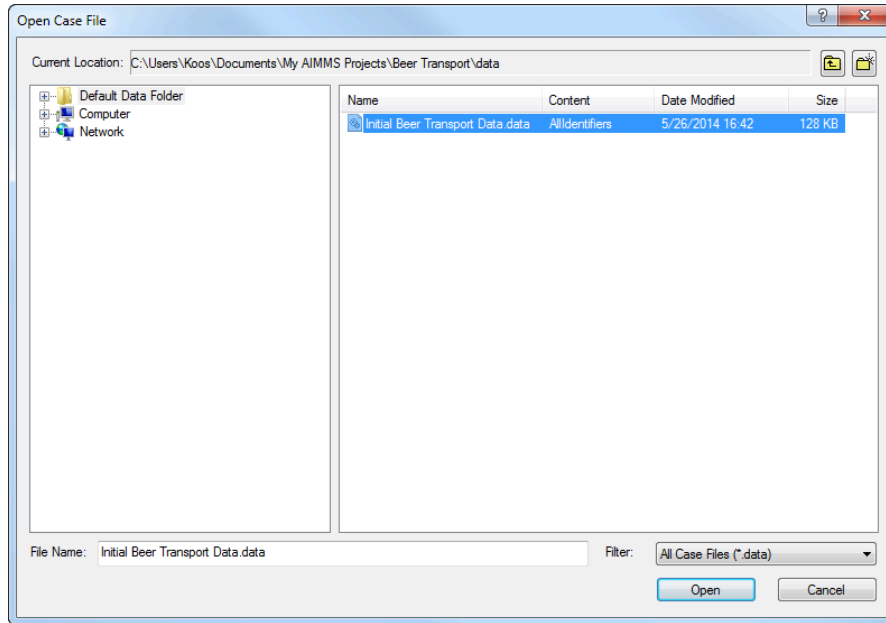

Figure 4.8: Load case dialog box
- ▶ select the desired case name in the **Load Case** dialog box (see Figure 4.8), and